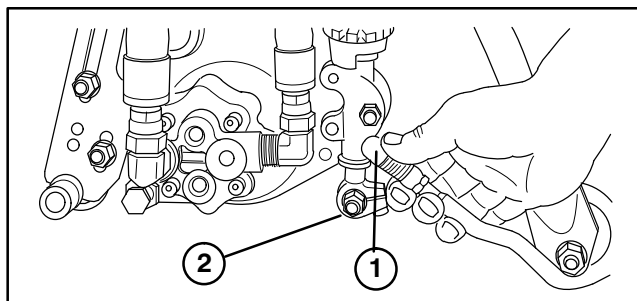

Figure 9
5. Slide the sleeve back on the ball joint and rotate the pull arm down so the socket fits over the ball stud. Release the sleeve so it slides over the stud and locks the assemblies together (Fig. 9).